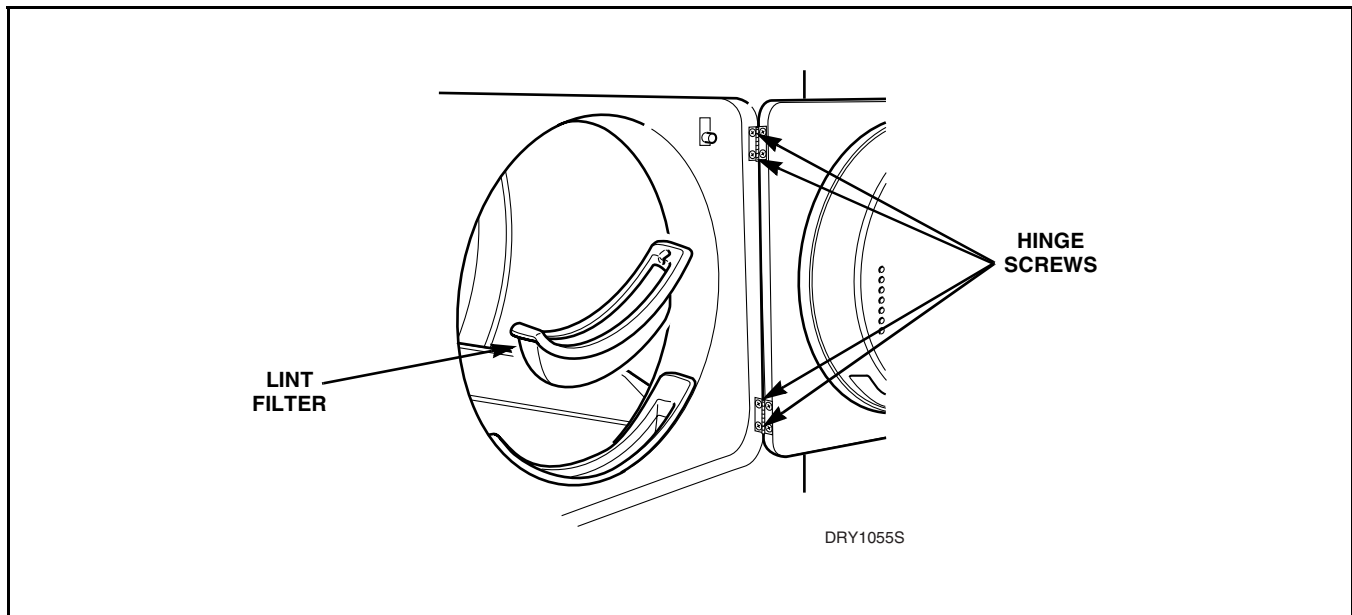

Figure 16
Refer to *Figure 16*.
Remove four screws holding hinges to door. Refer to *Figure 16*.
- Remove four screws holding hinges to door. Refer to *Figure 16*.
- Open loading door and remove four screws holding door assembly to hinges. Refer to *Figure 16*.